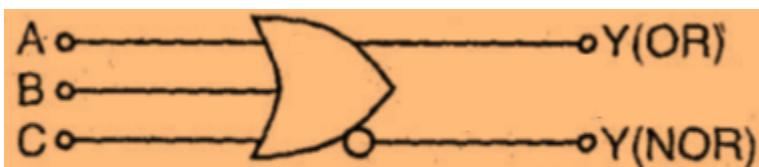

Figure 5.18 The Symbol for a 3-Input OR/NOR Gate
Additional transistors are used in parallel to T1 to get the required fan-in. There is a fundamental difference between all other logic families (including MOS logic) and ECL as far as the supply voltage is concerned. In ECL, the positive end of the supply is connected to ground in contrast to other logic families in which negative end of the supply is grounded. This is done to minimize the effect of noise induced in the power supply and protection of the gate from an accidental short circuit developing between the output of a gate and ground. The voltage corresponding to V (0) and V (1) are both negative due to positive end of the supply being connected to ground. The symbol of an ECL OR/NOR gate is shown in Fig.5.18.